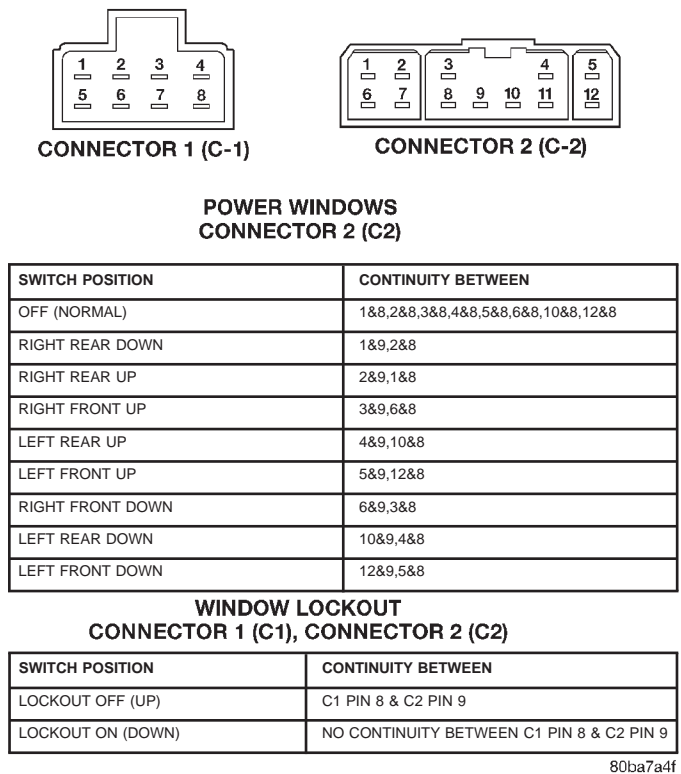
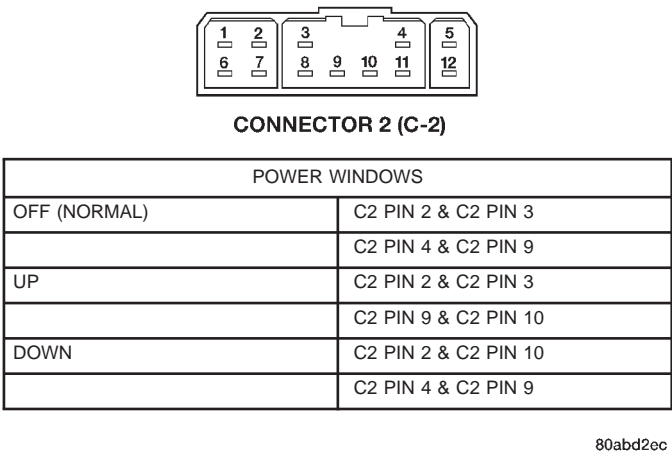

Fig. 1 DDM Power Window Switch Continuity
Fig. 2 PDM Power Window Switch Continuity
(1) Disconnect and isolate the battery negative cable. Remove the front door trim panel and unplug the door module wire harness connectors from the door module.
(2) Check the door module power window switch and/or power window lockout switch continuity in each position, as shown in the proper chart (Fig. 1) or (Fig. 2). If OK, see the Power Window Motor diagnosis in this group. If not OK, replace the faulty door module.